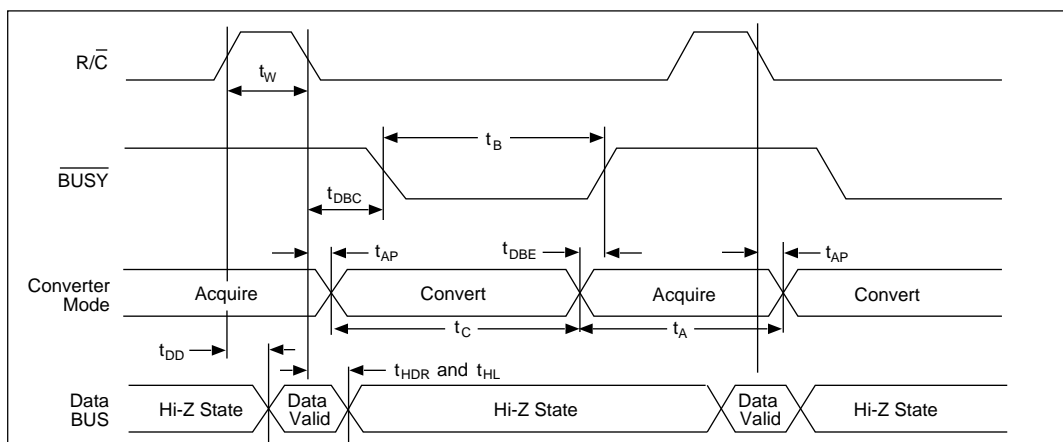

Figure 6. Read Mode Timing —  $R/\bar{C}$  Pulse HIGH, Outputs Enabled Only When  $R/\bar{C}$  is High
*Figure 6* illustrates the timing when conversion is initiated by a positive R/C pulse. In this mode (Read Mode), the output data from the previous conversion is enabled during the HIGH portion of R/C. A new conversion starts on the falling edge of R/C, and the three-state outputs return to the Hi-Z state until the next occurrence of a HIGH on R/C.